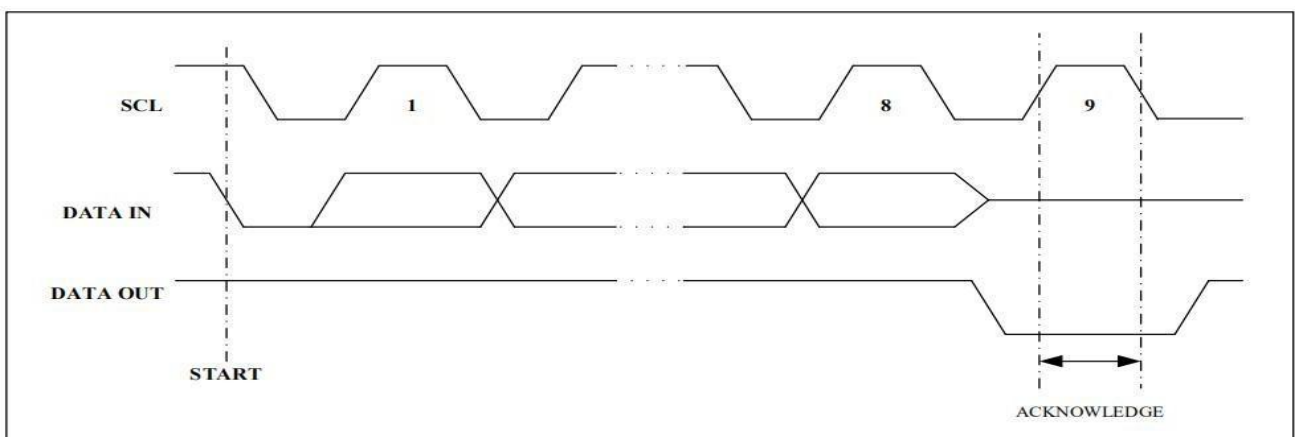

Figure 4. Output Acknowledge
**ACKNOWLEDGE:** All addresses and data words are serially transmitted to and from the EEPROM in 8-bit words. The EEPROM sends a "0" to acknowledge that it has received each word. This happens during the ninth clock cycle. (see **Figure 4**).